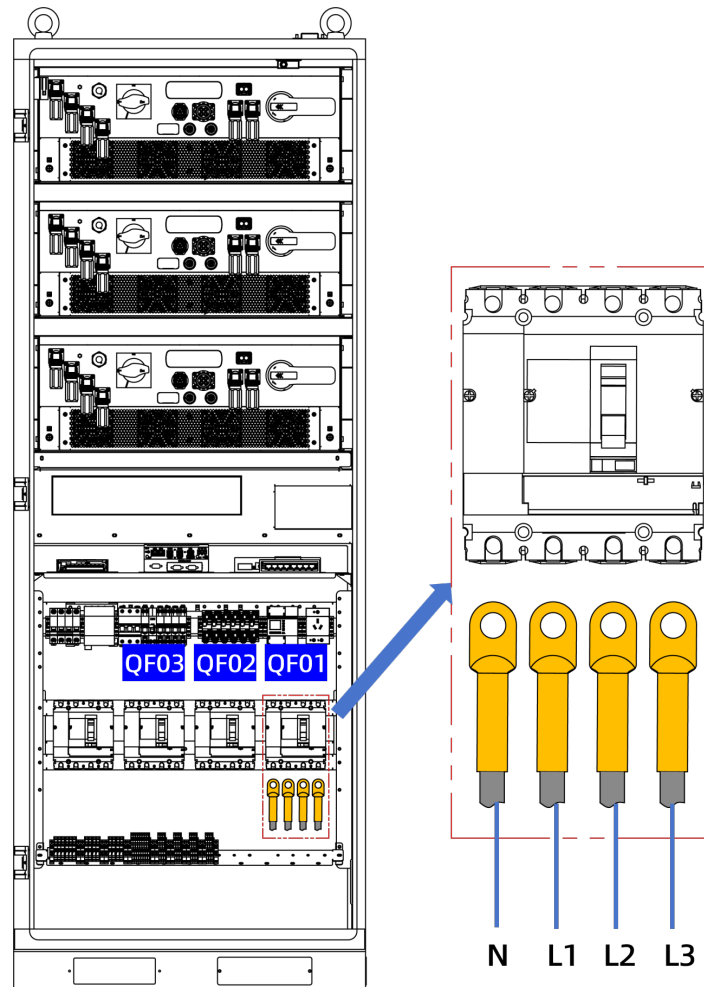

Figure 8-6: Power connections of QF01
- c. Connect power cables to circuit breaker QF01 with M8 fasteners as shown in Figure 8-6: The terminals on QF01, from left to right, are connected to the N, L1, L2, and L3 phases of the external power supply, respectively.